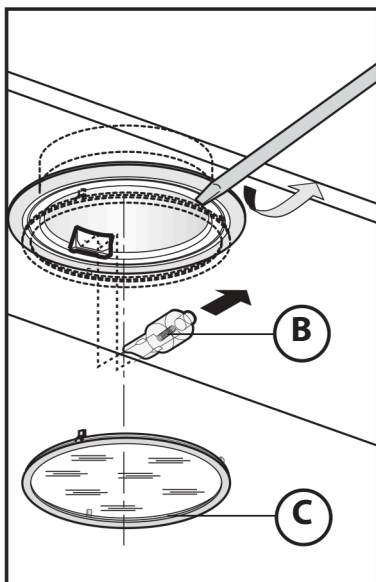

Fig.6
- **Byta halogenlampor (Fig.6):**